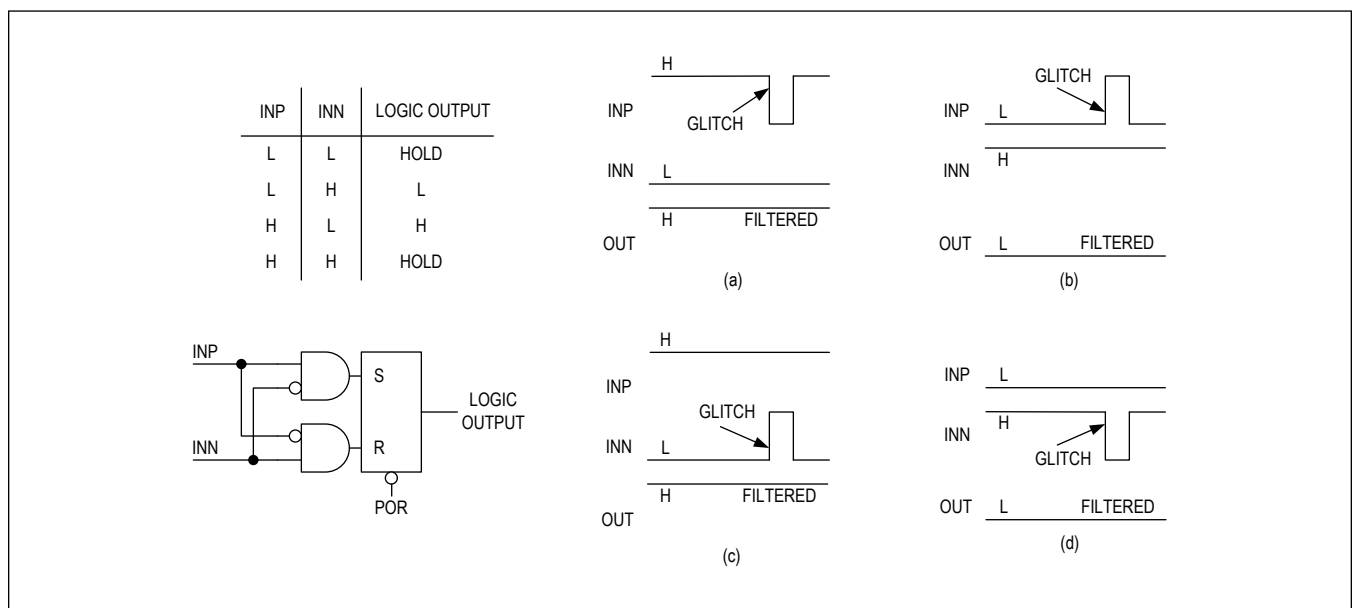
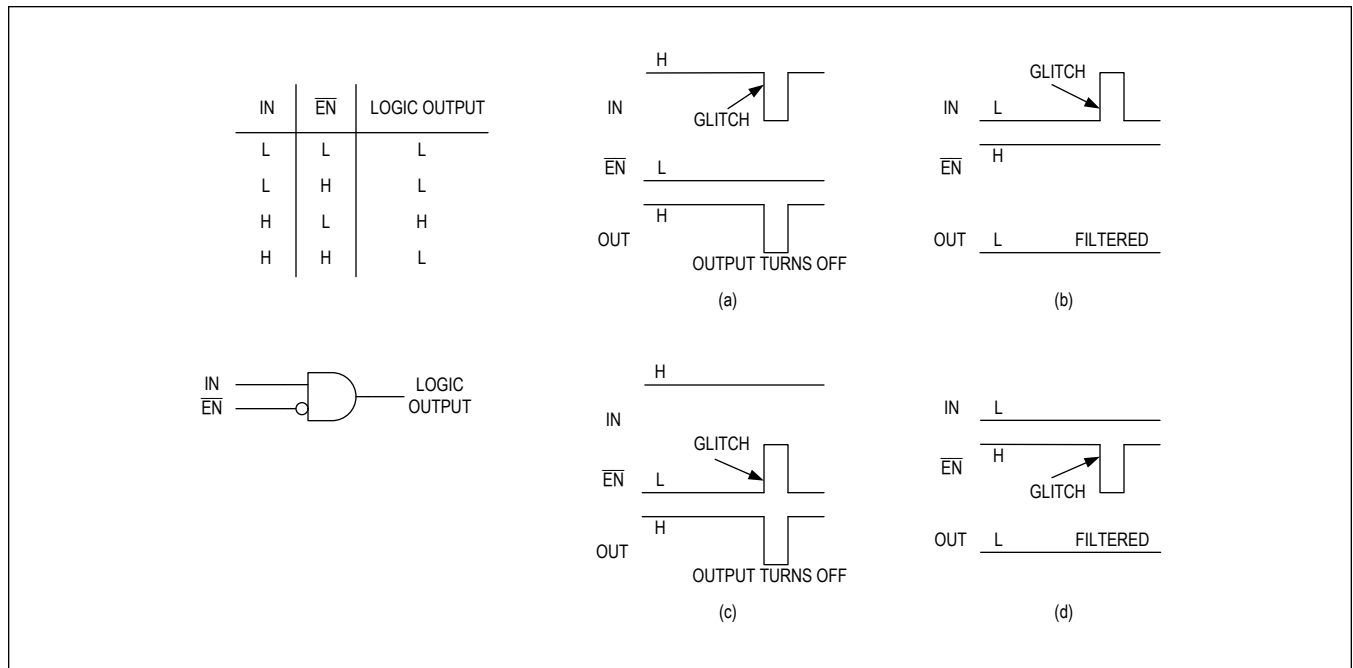

Figure 3. MAX2270\_D Differential Inputs
Figure 4. MAX2270\_E Single-Ended Input with Enable
The MAX2270\_D features differential PWM inputs (INP and INN). The differential inputs reject input glitches and prevent false turn-on of the output. The output holds the previous value when a glitch is detected on either input (Figure 3). The MAX2270\_E features a single-ended input (IN) and an active-low input enable ( $\overline{EN}$ ). The  $\overline{EN}$  pin allows the output (OUT) to be quickly set to logic-low, turning off the external power transistor. The output remains at logic-low until the PWM input (IN) receives a logic-high signal (Figure 4).